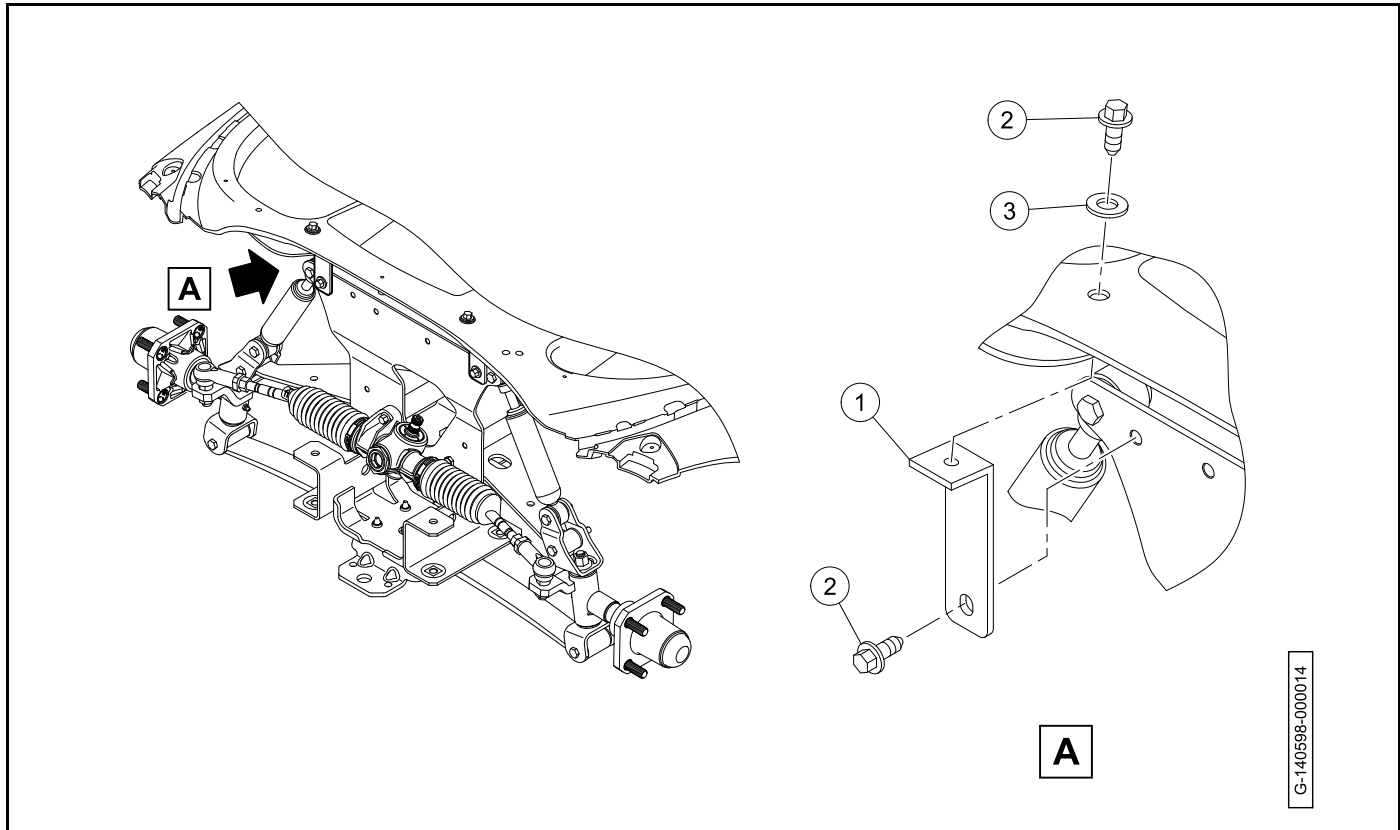

Figure 4-6 Underbody Bracket
1. Remove the two screws (2) and washer (3) (**Figure 4-6**).
2. Remove the underbody bracket (1).
1. Put the underbody bracket (1) into position on the vehicle (**Figure 4-6**).
2. Install the washer (3) screws (2). Tighten the screws to 13 lb·ft (17.6 N·m).